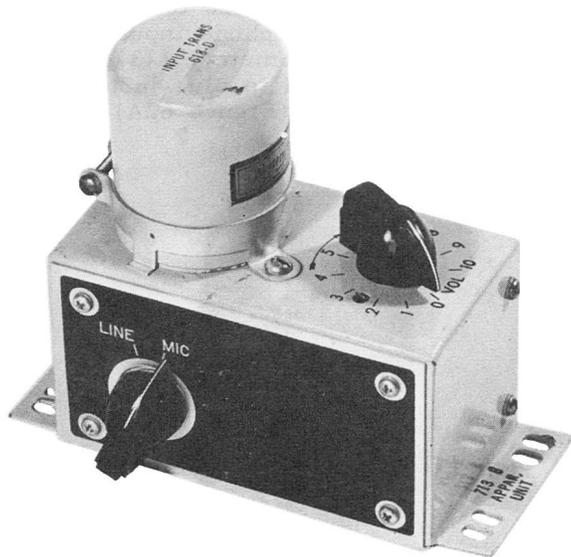

Figure 63 - 713B Apparatus Unit
4.07 The 713A apparatus unit is a line-to-grid transformer (618D) mounted on a 5-3/16" x 4-7/16" plate. It is 2-23/32" high and is arranged to mount on the 142 and 143 amplifiers. It has magnetic shielding, a maximum operating level of +8 dbm and a frequency response of +1.5 db from 50-100,000 cps. The input impedance is 37.5, 150, or 600 ohms. The load impedance is 25,000 ohms. (Figure 63)
4.08 The 713B apparatus unit is the same as the 713A except that a switch and a 50,000-ohm potentiometer are added on the high side of the transformer. (Figure 63)